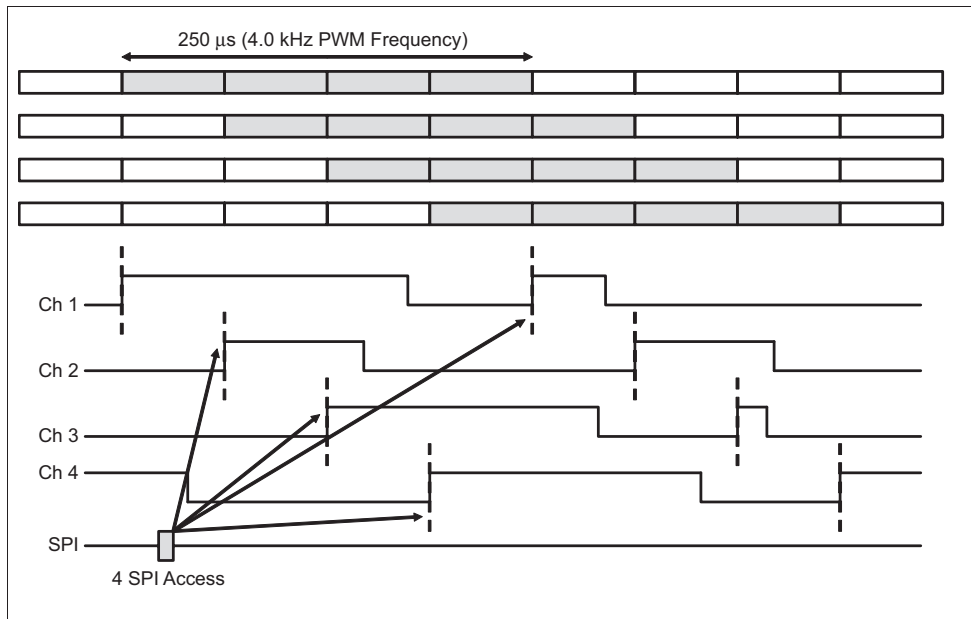

Figure 8. PWM Valve Control Interleave
10. Digital: internal digital signal delivered by interleave synchronization block. See Figure 8.